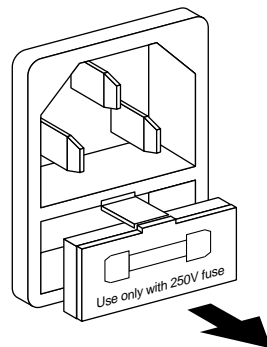

Figure 2-7 Opening the Fuse-holder in the AC Receptacle Assembly
- 3 Using a small screwdriver, carefully pry open and pull out the fuse-holder, as shown in Figure 2-7.